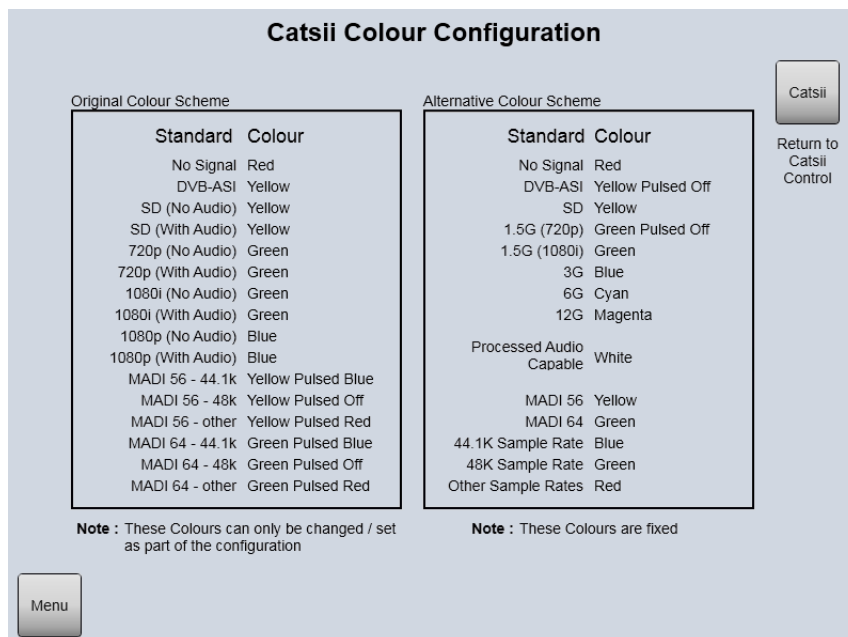

Figure 49 Catsii Colors Screen
- **On** button - enables Catsii signal status on the rear of the router. The Catsii colors used on your system can be viewed by touching the **Catsii Colours** button on the Catsii Control screen. This displays the Catsii configuration screen shown in Figure 49.
Touch the **Catsii Colours** button on the Catsii Control screen to display the Catsii configuration screen, see Figure 49.